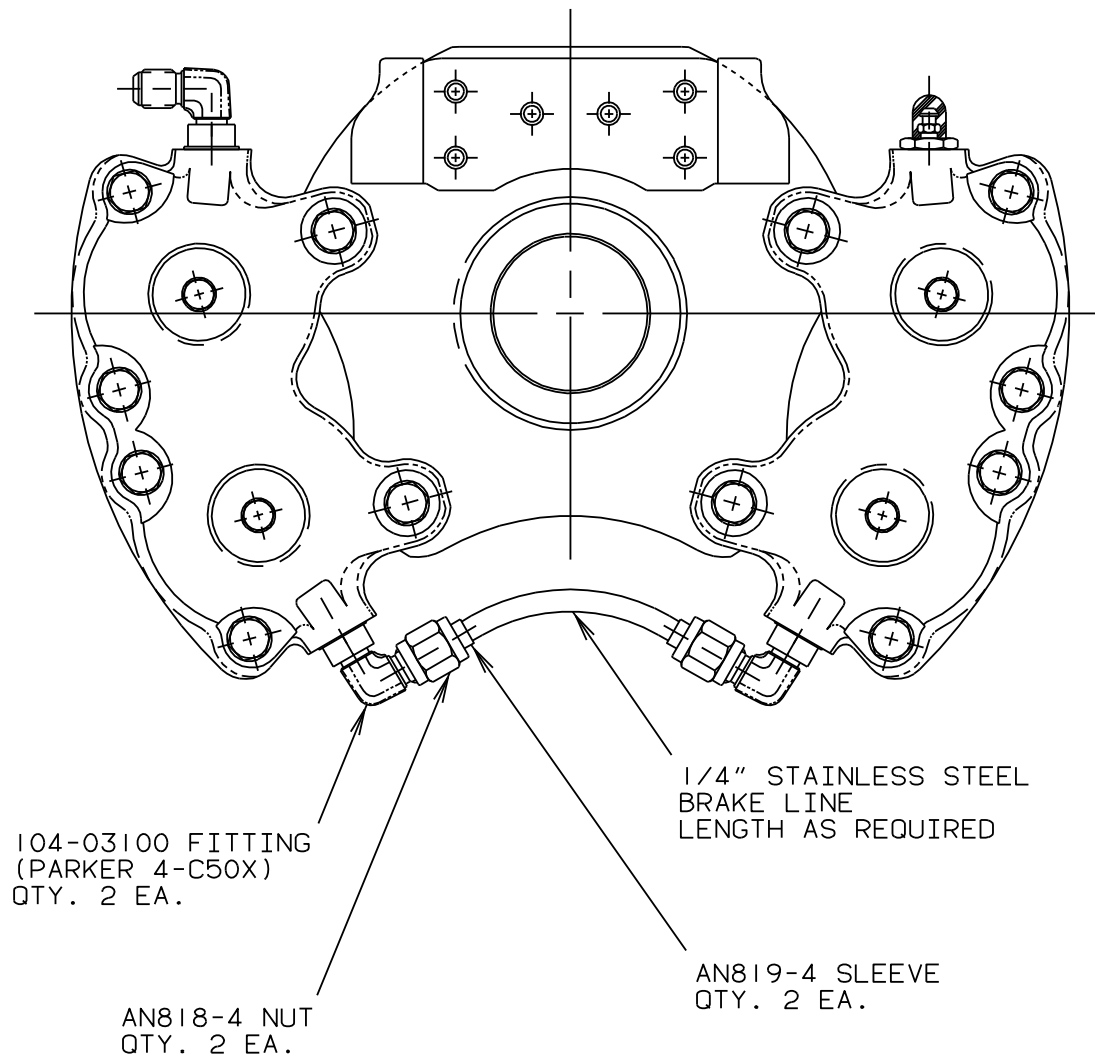

Figure 1
3. Install 90° fittings, P/N 104-03100 (Parker 4-C50X), one in each cylinder positioned, as in Figure 1.
4. Fabricate a brake line, bent as shown in Figure 1, cut and double flared to length needed for proper fit. Brake line to be made of 1/4" stainless steel brake line with AN819-4 sleeves and AN818-4 nuts. Fabrication to be per "Airframe and Powerplant Mechanics General Handbook", FAA publication EA-AC65-9A, Chapter 5.
5. Install brake line, as shown in Figure 1, and tighten per above referenced handbook.
7. Repeat procedure for all four (4) brakes, then reinstall wheels and brakes per manual.